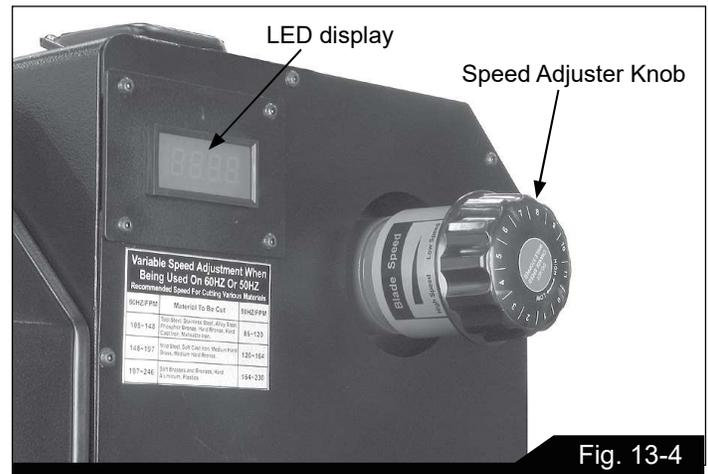

Fig. 13-4
2. Turn power on and turn speed adjuster knob (Fig. 13-4) to match appropriate material. The LED display will show the current speed. The adjoining chart shows general recommendations for speeds in relation to material.